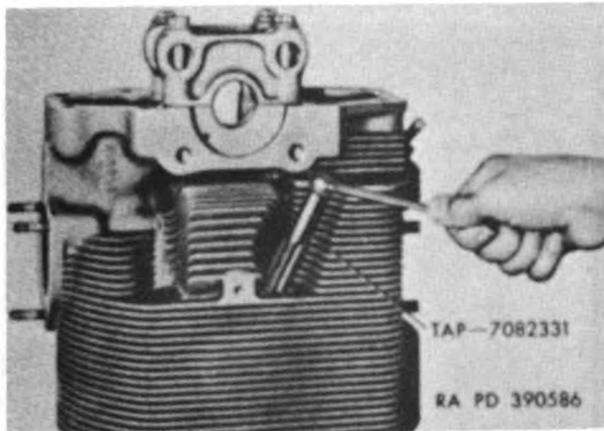

Figure 82. Retapping thread for Heli-coil insert.
- (c) If necessary, clean threads with tap 7082331 as shown in figure 82.